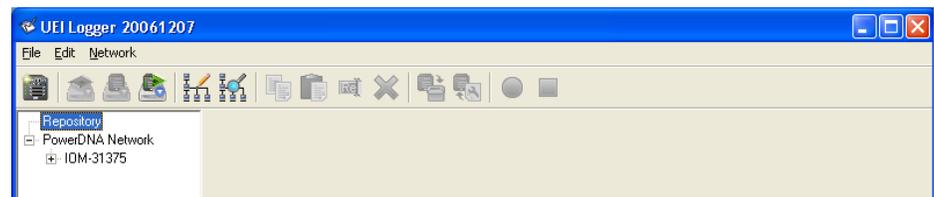

Figure 2-15. Scan Network Screen
- STEP 3:** Pull down the Network Menu and click on “Scan Network.” The screen shown in **Figure 2-15** then appears.